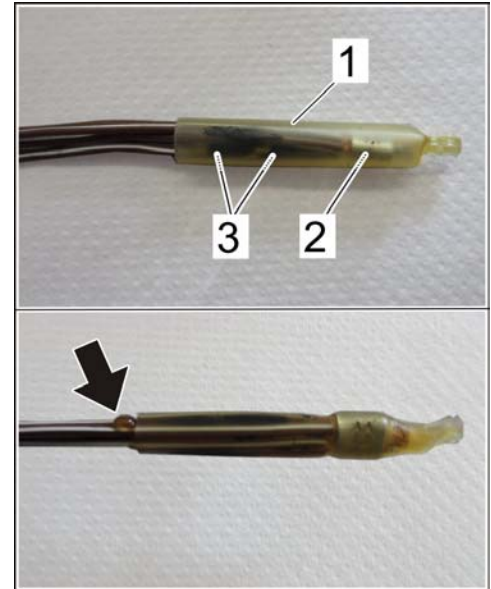

Figure 11
- 10.3 Slide end cap \Rightarrow *Figure 11 -1-* over the splice connection \Rightarrow *Figure 11 -2-* and additional adhesive \Rightarrow *Figure 11 -3-*.
- 10.4 Using the heat gun with spoon strainer attached, carefully fuse the end cap \Rightarrow *Figure 11 -1-* and additional adhesive \Rightarrow *Figure 11 -3-* with the splice connection until adhesive emerges all the way around \Rightarrow *Figure 11 -arrow-*. **Temperature** 266° F. (130° C.) +/- 50° F. (10° C.)